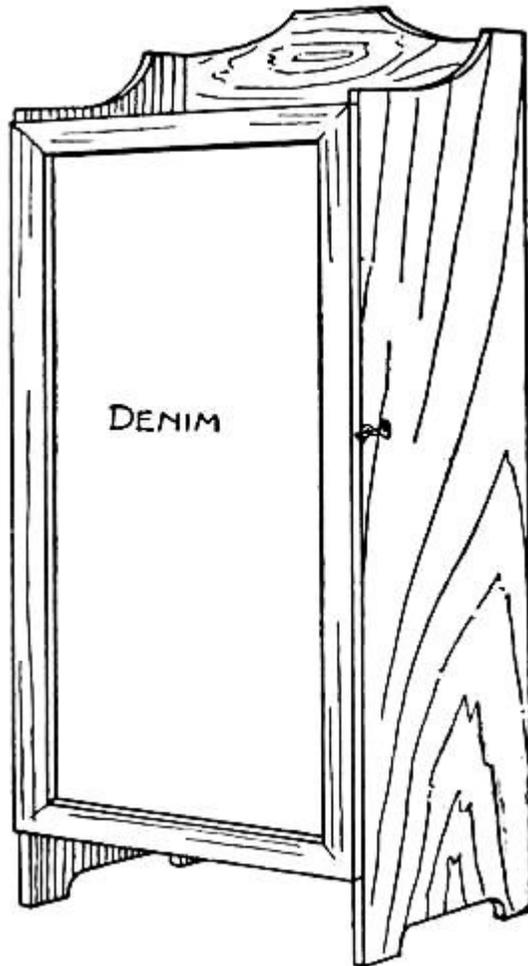

FIG. 59.—A Curio-cabinet.
**A Curio-cabinet**, similar to Fig. 59, will make it possible to keep all specimens arranged in order, each set of curios occupying a shelf by itself.